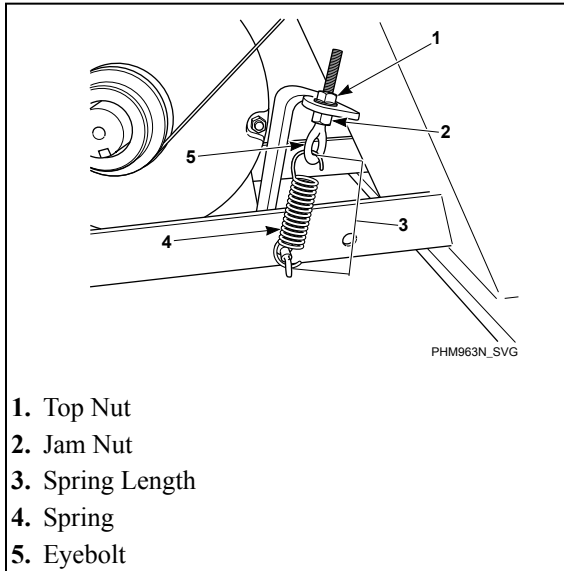

Figure 66
- **Frequency Gauge.** Tighten eyebolt top nut until the correct frequency (refer to *Table 49*) is obtained mid-span. Torque jam nut to spring bracket to 20.6 ± 2 ft.-lbs. Refer to *Figure 66*.
- **Tension Gauge.** Tighten eyebolt top nut until the proper belt gauge (refer to *Table 49*) is obtained mid-span. Torque jam nut to spring bracket to 20.6 ± 2 ft.-lbs. Refer to *Figure 66*.
- **Spring Length.** Tighten eyebolt top nut until the spring measures the correct distance between the hooks. Refer to *Table 48*. Torque jam nut to spring bracket to 20.6 ± 2 ft.-lbs. Refer to *Figure 66*.
- **Maintain Tension During Belt Removal.** If proper tension is achieved, tape the jam nut in place and loosen eyebolt top nut to release the belt. Replace belt and retighten eyebolt top nut back to jam nut position. Refer to *Figure 66*.